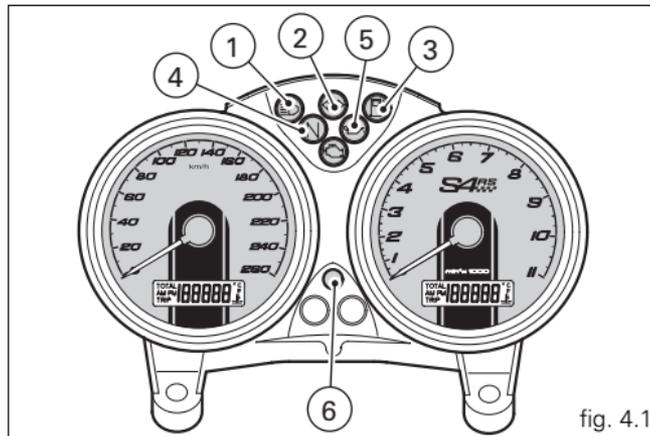
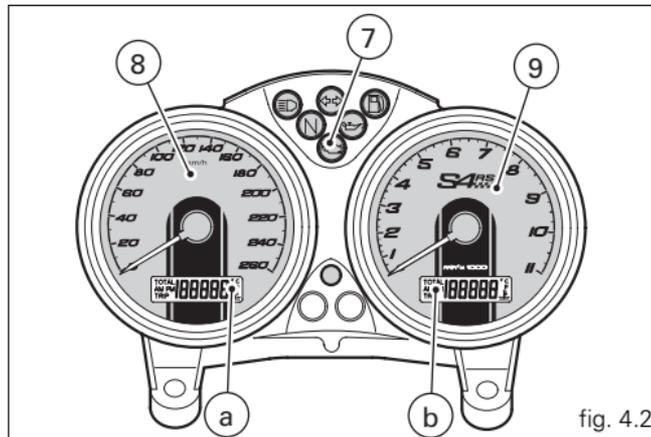
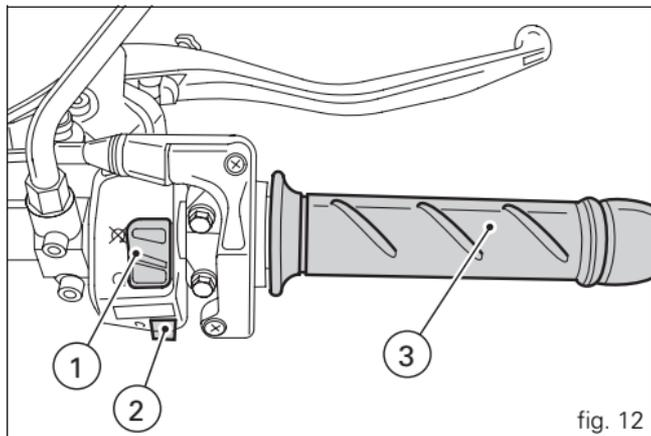

fig. 4.1
fig. 4.2
fig. 12
Instrument panel (fig. 4.1 and fig. 4.2)
In case of faulty immobilizer system, the following procedure gives the chance to disable "engine lock" function - signalled by illumination of the yellow amber **EOBD** warning light (7, fig. 4.1).
1) Turn the key to ON, fully open the throttle and hold it open. The EOBD warning light (7, fig. 4.1) goes off after the pre-set time of 8 seconds.
1) if the code is recognised, the warning light (6, fig. 4.1) on the instrument panel will flash briefly. This means that the immobilizer system has recognised the code and disabled the engine lock. When you press the START (2, fig. 12) button, the engine will start up.
2) If either the warning light (6, fig. 4.1) or the EOBD light (7, fig. 4.1) remain lit, the code has not been recognized. In this case, it is advisable to turn the ignition key back to OFF and then to ON again. If the engine still does not start, try using another black key. If the engine still does not start, contact the DUCATI Service network.
3) If the warning light (6, fig. 4.1) keeps flashing, it means that an error signal from the immobilizer system has been cleared (e.g. with the override procedure using the throttle twistgrip). Turn the key to OFF and back to ON; the immobilizer light should return to its normal state (see step 1).
Right-hand handlebar switch (fig. 12)
Throttle twistgrip (fig. 12)